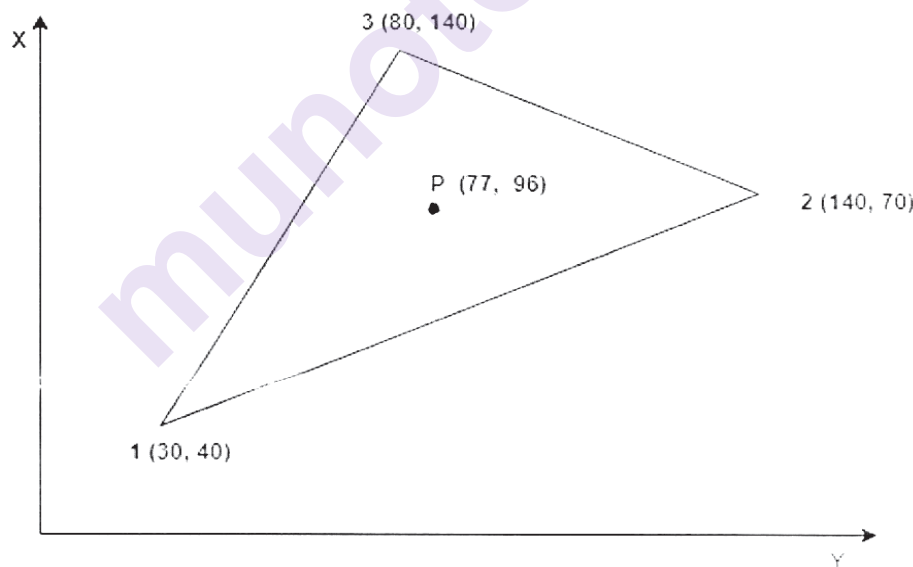

Fig. 1
- Q1) a)** In triangular element, shown in fig 1 the nodes 1, 2 and 3 have Cartesian coordinates: (30,40), (140,70), and (80,140) respectively. The displacement in mm at node 1, 2 and 3 are (0.1, 0.5), (0.6,0.5) and (0.4, 0.3) respectively. The point P within the element has Cartesian coordinates (77, 96). For point P determine the i) natural coordinate ii) shape function iii) displacement) [12]